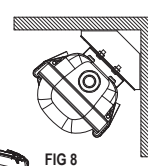

FIG 8
3. Snap the Housing onto the Surface Mounting Brackets, as illustrated in Fig. 8.